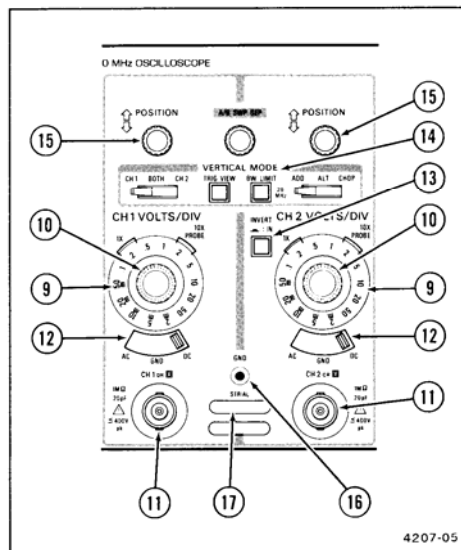

Figure 2-4. Vertical controls and connectors.
Refer to Figure 2-4 for location of items 9 through 17.
- ⑨ **CH 1 VOLTS/DIV and CH 2 VOLTS/DIV Switches**—Used to select the vertical deflection factor in a 1-2-5 sequence. To obtain a calibrated deflection factor, the VOLTS/DIV variable control must be in the calibrated (CAL) detent (fully clockwise).
- ⑩ **VOLTS/DIV Variable Controls**—When rotated counterclockwise out of their calibrated detent positions, these controls provide continuously variable, uncalibrated deflection factors between the calibrated settings of the VOLTS/DIV switches.
- ⑪ **CH 1 OR X and CH 2 OR Y Connectors**—Provide for application of external signals to the inputs of the vertical deflection system or for an X-Y display. In the X-Y mode, the signal connected to the CH 1 OR